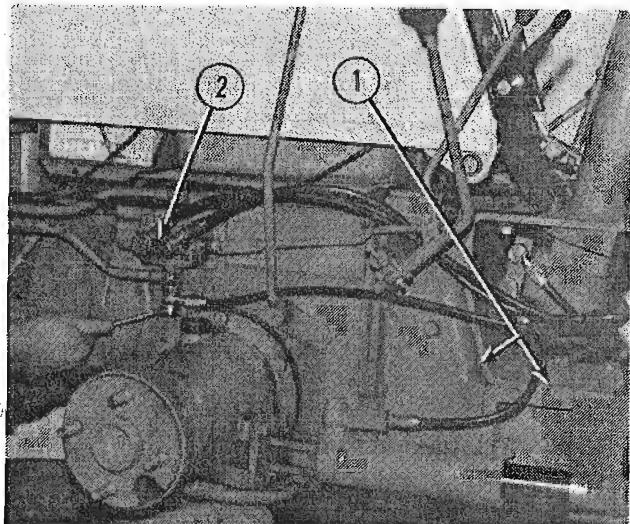

FIG. 1
(1, Fig. 1)
- (1) Hydraulic lines to rear lift and power steering manifold block at control valve, (2, Fig. 1)